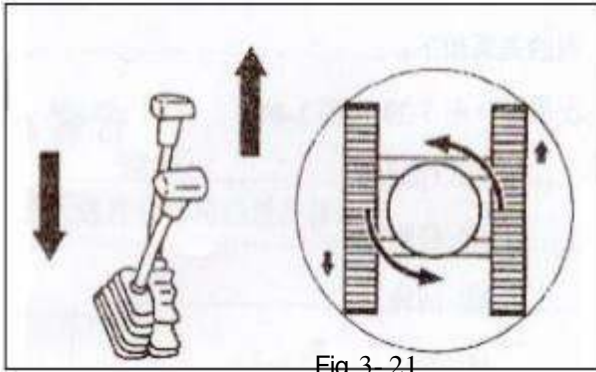

Fig 3-21
12. When one crawler track rotates forward and the other crawler track rotates backward, the equipment will rotate around the center point. (Figure 3-21)